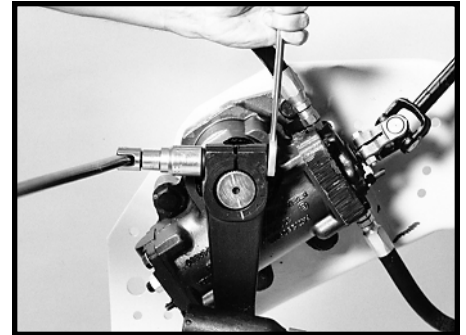

Figure 5
- 1.1 If a leak is detected in the trunnion cover area, on many HFB64 installations, you can remove the trunnion cover to gain access to the sector shaft seal package while the steering gear is on the vehicle. First remove the pitman arm nut and bolt and then the pitman arm from the sector shaft (50). SEE FIGURES 5 & 6. Check the radial position of the pitman arm to the sector shaft prior to removal of pitman arm. Add timing marks to the arm and shaft if necessary to insure correct alignment at reassembly.